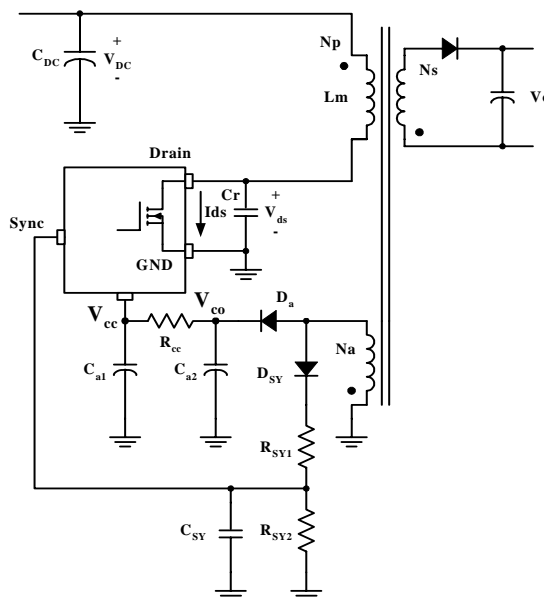
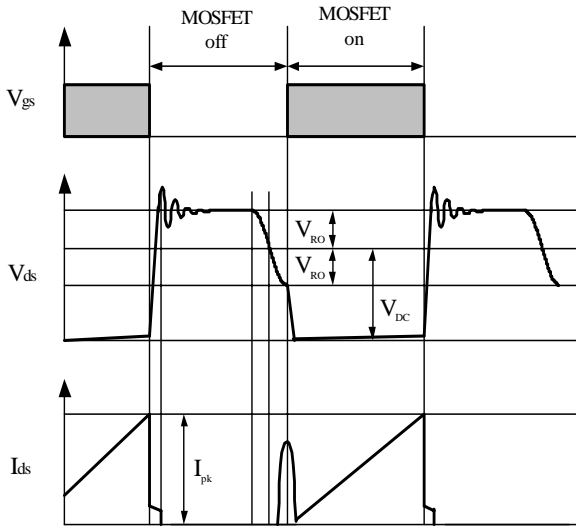
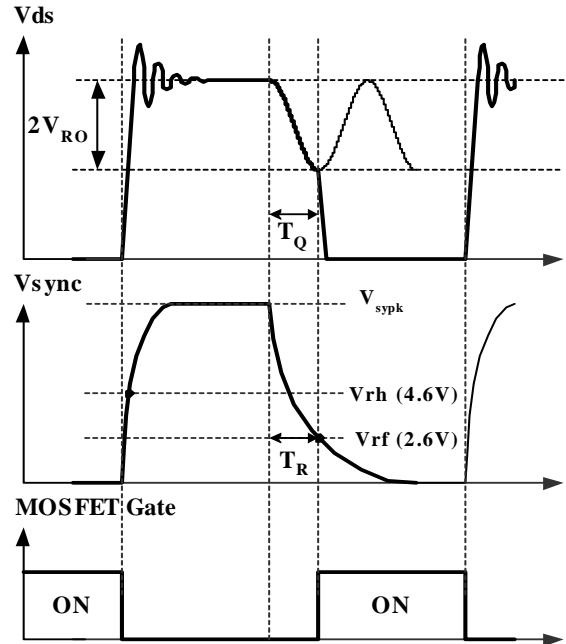

Figure 6. Synchronization circuit
Figure 7. Quasi-resonant operation waveforms
Figure 8. Normal quasi-resonant operation waveforms
**2. Synchronization :** FSCQ1265RT employs quasi-resonant switching technique to minimize the switching noise and loss. In this technique, a capacitor (Cr) is added between the MOSFET drain and source as shown in Figure 6. The basic waveforms of quasi-resonant converter are shown in Figure 7. The external capacitor lowers the rising slope of drain voltage to reduce the EMI caused when the MOSFET turns off. In order to minimize the MOSFET switching loss, the MOSFET should be turned on when the drain voltage reaches its minimum value as shown in Figure 7.
The minimum drain voltage is indirectly detected by monitoring the Vcc winding voltage as shown in Figure 6 and 8. The voltage divider RSY1 and RSY2 should be chosen so that the peak voltage of sync signal (Vsypk) is lower than the OVP voltage (12V) in order to avoid triggering OVP in normal operation. It is typical to set Vsypk to be lower than OVP voltage by 3-4 V. In order to detect the optimum time to turn on MOSFET, the sync capacitor (CSY) should be determined so that TR is the same with TQ as shown in Figure 8. The TR and TQ are given as, respectively